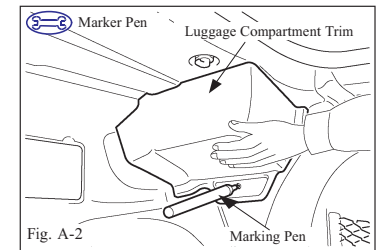

Fig. A-2
3. Preinstall luggage compartment trim cover, mark the clip install hole with a marker pen. (Fig. A-2)